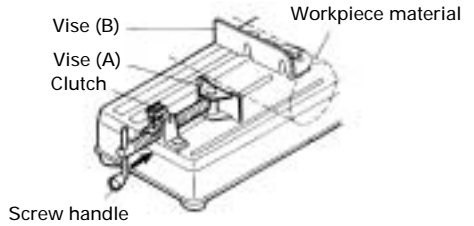

Fig. 2
**1. Procedure for fixing the cutting material (Fig. 2 and 3)**
Place the workpiece material between vise (A) and vise (B), raise the clutch and push the screw handle to bring vise (A) lightly into contact with the workpiece material, as shown in Fig. 2.